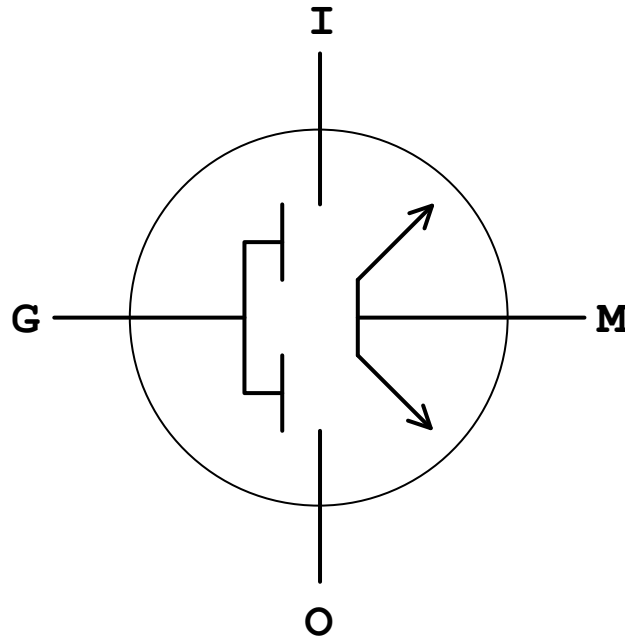

Figure 3: MM9200 Functional Diagram
Functionally, the MM9200 has two sets of contacts in series as shown in Figure 3. Each set of contacts can stand-off up to one-half of V_{STANDOFF} (i.e., $V_{\text{STANDOFF}}/2$), as shown in Table 2. To be able to withstand the fully rated V_{STANDOFF} Input (I) to Output (O), the MM9200 needs to be biased such that the Midpoint (M) is at most $V_{\text{STANDOFF}}/2$ from Input or Output. See Typical Application Circuits on page 10 for implementation details for Midpoint biasing. Both sets of contacts are actuated by applying voltage to a common Gate (G).